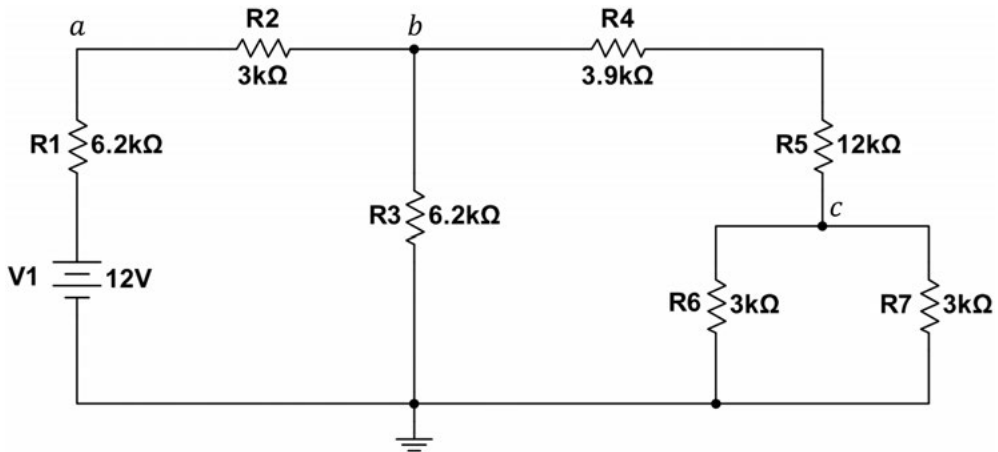

Figure 2.3: Lab 2 pre-lab circuit 3.
3. Use Multisim to draw the circuit shown in Figure 2.3. Then label Figure 2.3 with the direction of each branch current and the polarity for each resistor (you do not need to add these labels to your Multisim drawing). Simulate your circuit, and, using voltage and current probes, fill in the values for each component's voltage and current in Table 2.1.
In the lab: Build circuit 3 (shown in Figure 2.3) on your breadboard. Use the multimeter to measure the voltage across and the current through each component, and enter these measurements in Table 2.2. Use the voltages and currents you measured to calculate the power dissipated by each component, and enter these values in the table, as well. Add the values in the power column.